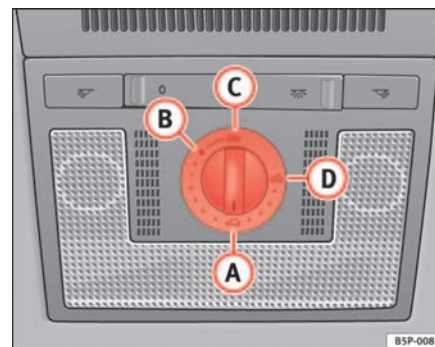

Fig. 69 Detail of the sunroof: rotary button for sliding/tilting sunroof
- Turn the rotary button to position  ⇒ fig. 69 ⇒ . ▶